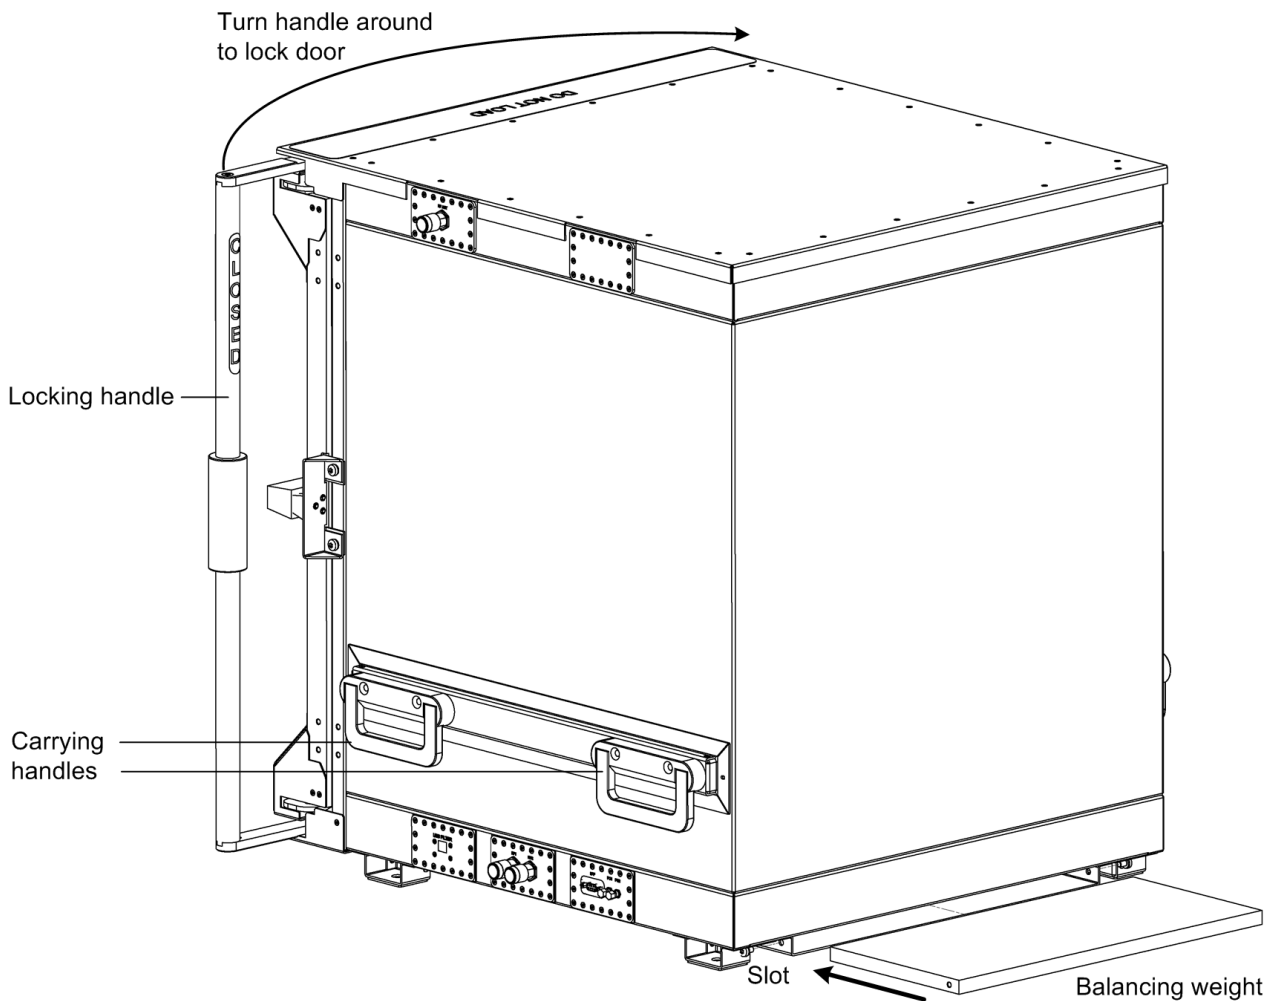

Fig. 2-2: Position of balancing weight
- Ensure that the balancing weight is in the slot at the back of the chamber and affixed by the two screws on either side; see figure 2-2.
DST-S100B, order no. 1515.1396.03). The two selections are symmetric to each other; figure 2-2 shows a door with a left-hand mounting (hinges on the left side).